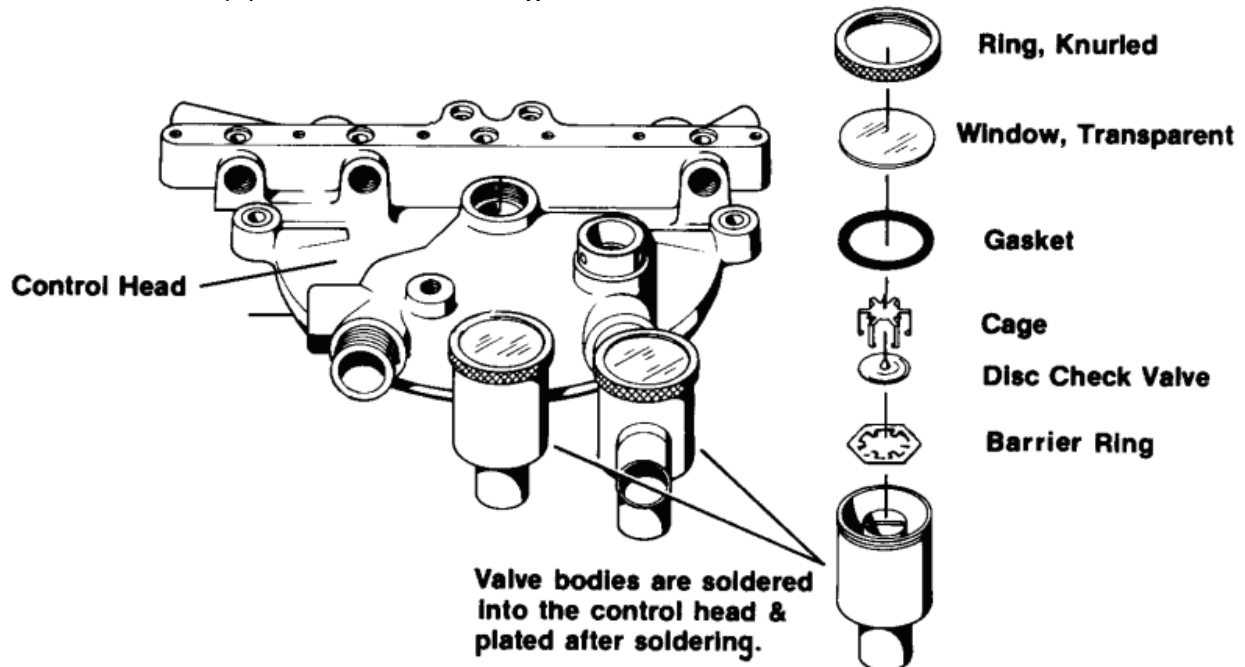

Figure 1-3. Control head-check valve.
(2) Rotate the canisters to ensure the absorption capacity of the soda lime is more fully used.
b. **Check Valve Maintenance.** Periodically, ensure that the check valve is clean. Refer to figure 1-3 to see an exploded view of the control head.